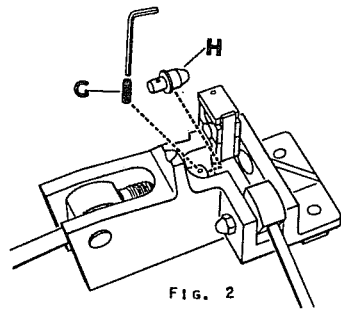

FIG. 2
2. Remove swaging adapter set screw (G). Insert swaging adapter (H) corresponding to tubing size to be swaged. Replace set screw and tighten.
4. Move swaging lever to right until adapter completes swaging operation and abrupt resistance is felt (Fig. 2). (Excessive force is not required in fabricating swages.) Recess in die and self-centering, hard chrome finished adapter automatically forms a swage.